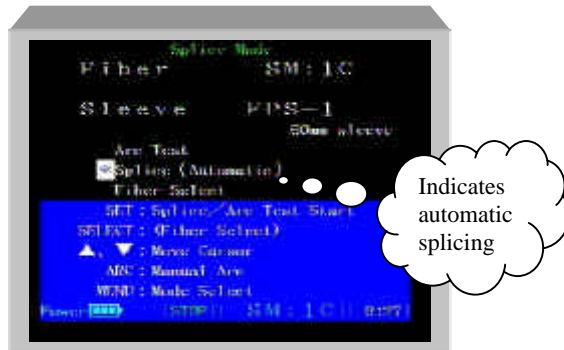

Figure 37. Splicing Mode of Operation
13.6.8 **SLEEP-** In Figure 37, the sleep timer is set for 10 minutes. After 10 minutes of no activity (no buttons pressed, splices being made, or heater operation) the splicer will go into a sleep mode to reduce power consumption. During SLEEP mode the following will occur:
13.6.9 **AUTO POWER OFF-** Referring to Figure 37, the AUTO POWER OFF timer is not activated. The auto power off timer will begin counting down only after SLEEP mode has been activated. If SLEEP mode is set to "ON", AUTO POWER OFF will be activated following the programmed duration. Example: